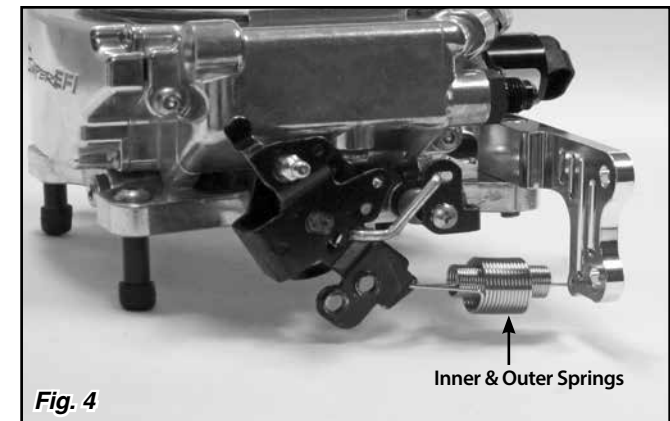

Fig. 4
Step 4: Connect one end of the inner and outer springs to the small hole at the bottom of the aluminum throttle cable bracket. Connect the other end of the inner and outer springs to the rear most hole at the bottom of the throttle lever. Fig. 4